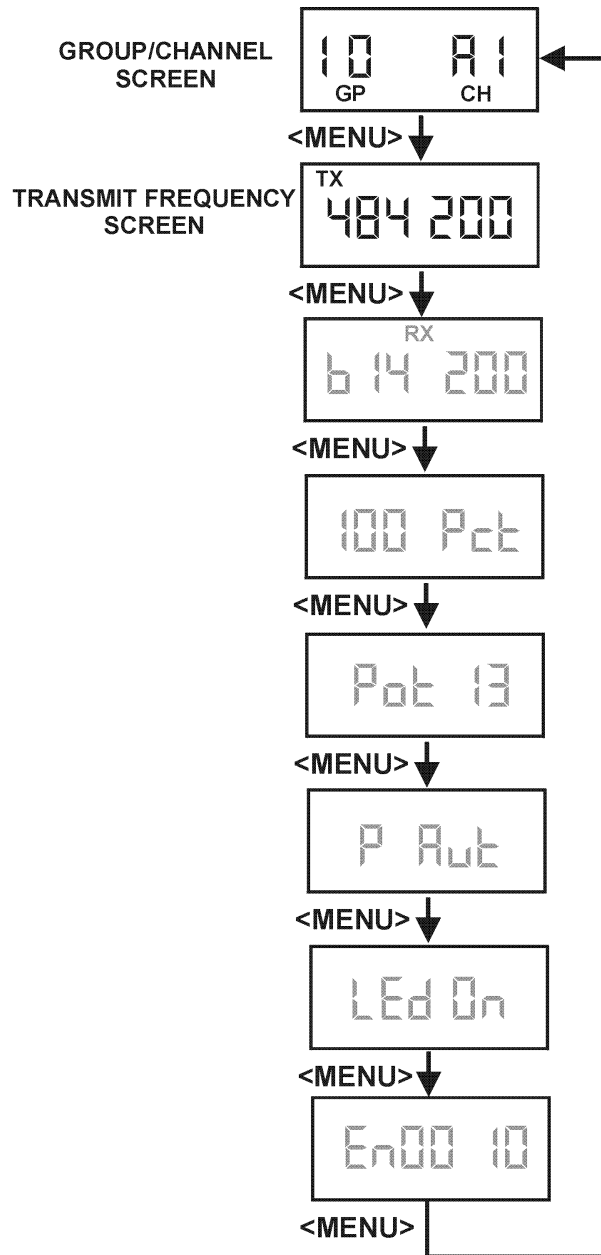

Figure 7-5
1. Set the unit to the desired user defined group and channels. See Groups and Channels Instructions. The menu structure at the right (Figure 7-5) indicates how to get to the transmit frequency screen.